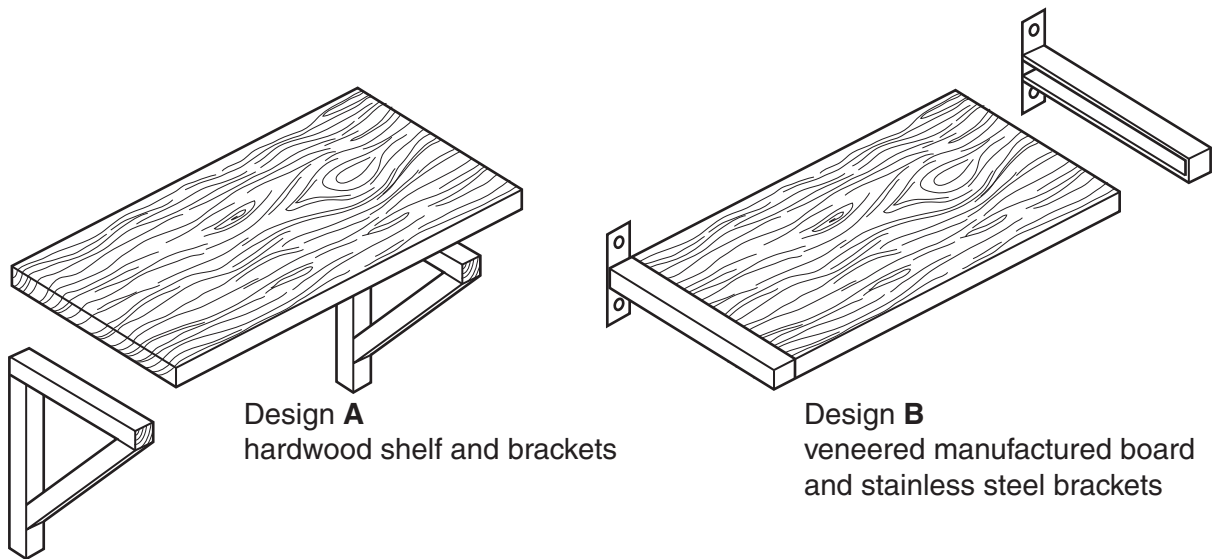

Fig. 15
- 13 Fig. 15 shows two designs of shelf units. Both designs are manufactured and sold as self-assembly products.
(e) Use sketches and notes to show details of **one** functional improvement that could be made to shelf unit Design **A** shown in Fig. 15.